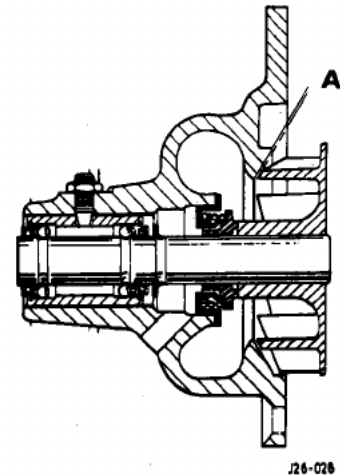

Fig. 10
Carefully press the impeller onto the spindle until the dimension (A) shown on illustration (Fig. 10) is obtained. $A = 0.381 \pm 0.07$ mm (0.015 ± 0.003 in)